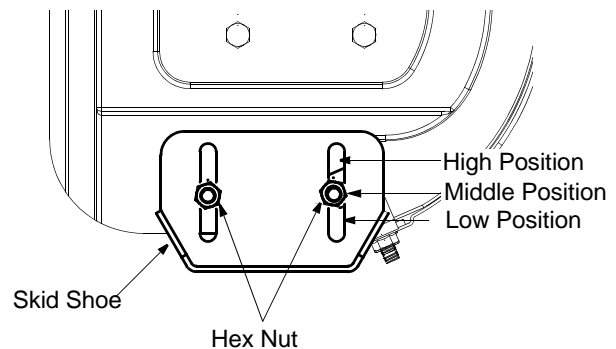

Figure 14
1. Adjust skid shoes by loosening the four hex nuts and carriage bolts and moving skid shoes to desired position. See Figure 14. Make certain the entire bottom surface of skid shoe is against the ground to avoid uneven wear on the skid shoes.